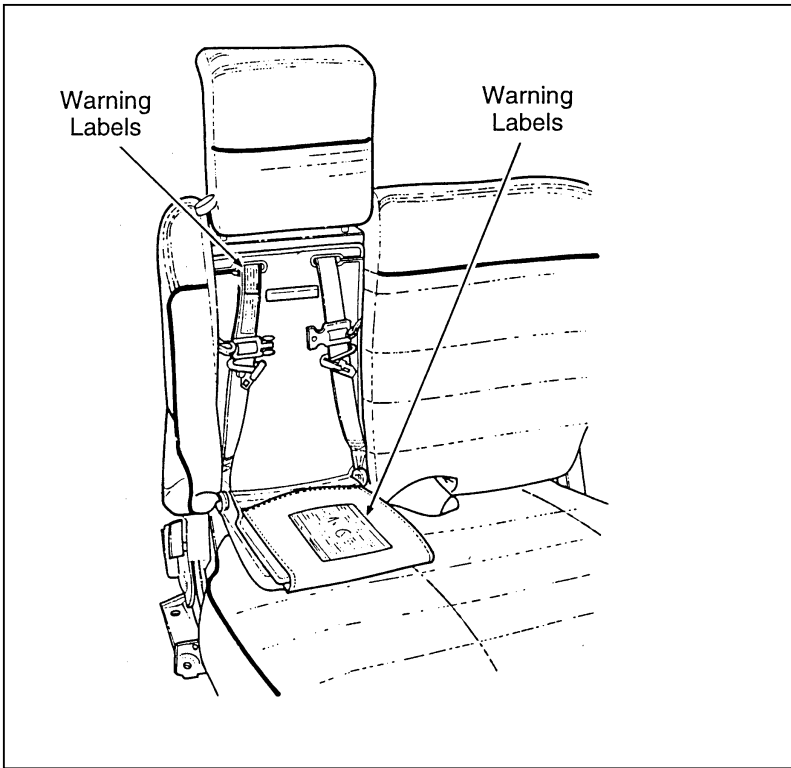

Figure 5: Child seat information and warnings
4. Lower the child seat cushion onto the adult seat cushion. Read the information and warnings carefully on the child seat cushion protector flap and shoulder safety belt. Check the child's size, weight and age to be sure that the child is not too small or too large for the seat. Refer to Figure 5.
5. Unfold cushion protector flap onto adult seat cushion. Refer to Figures 5 and 6.